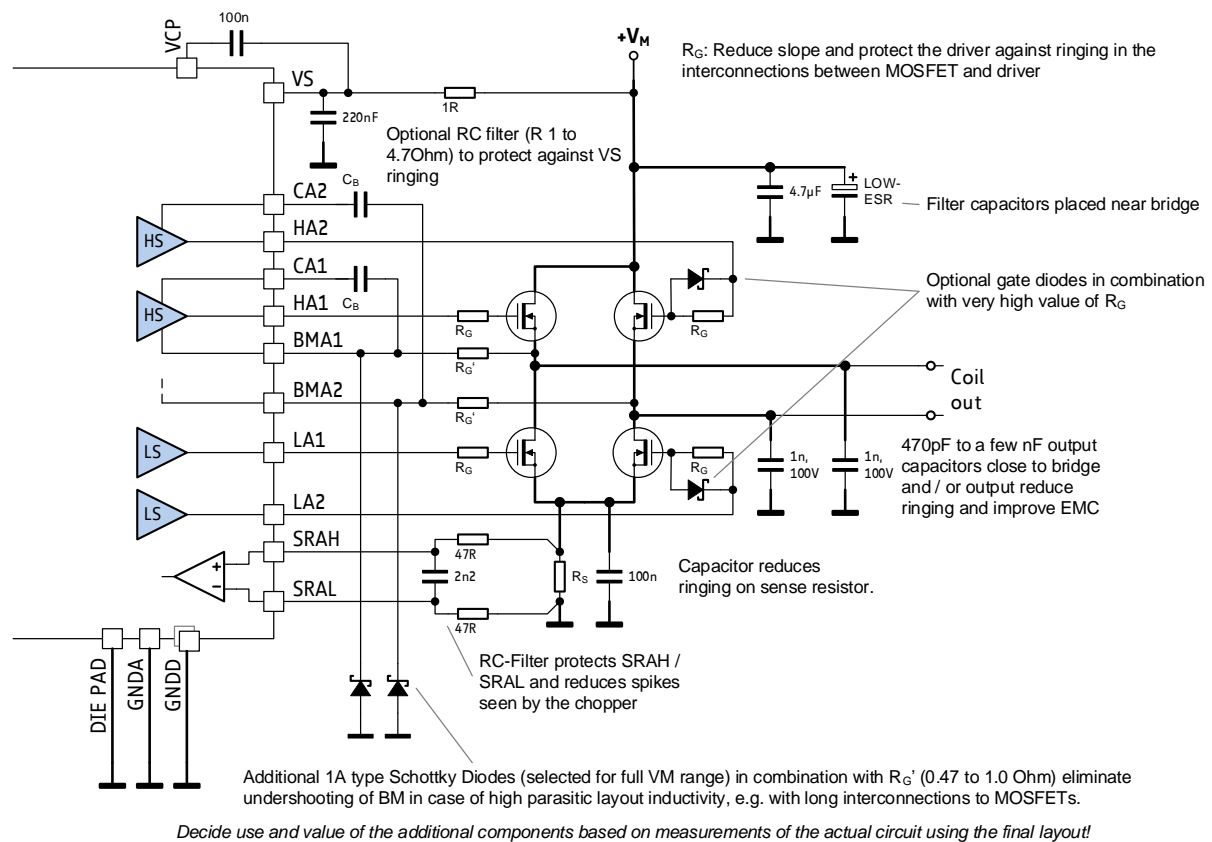
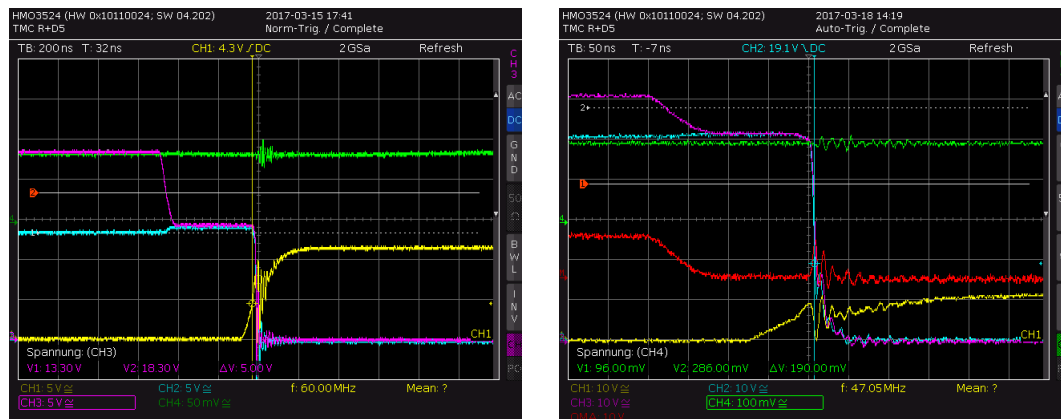
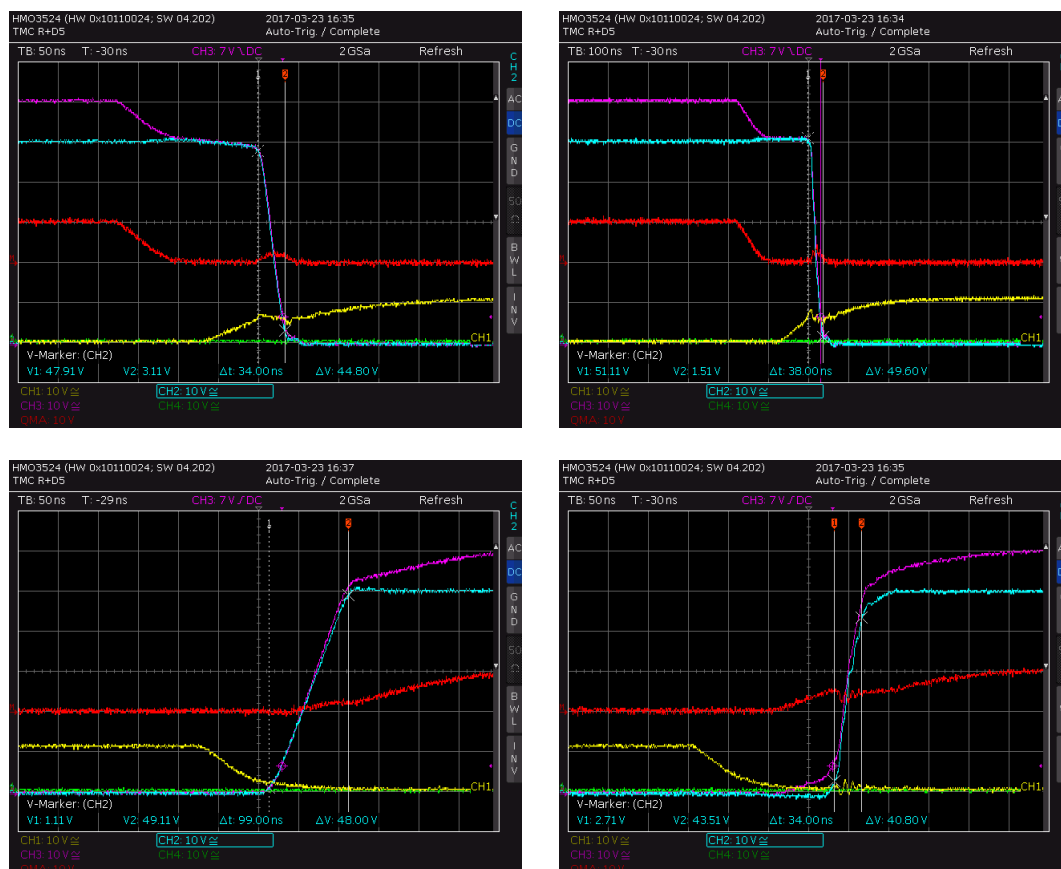
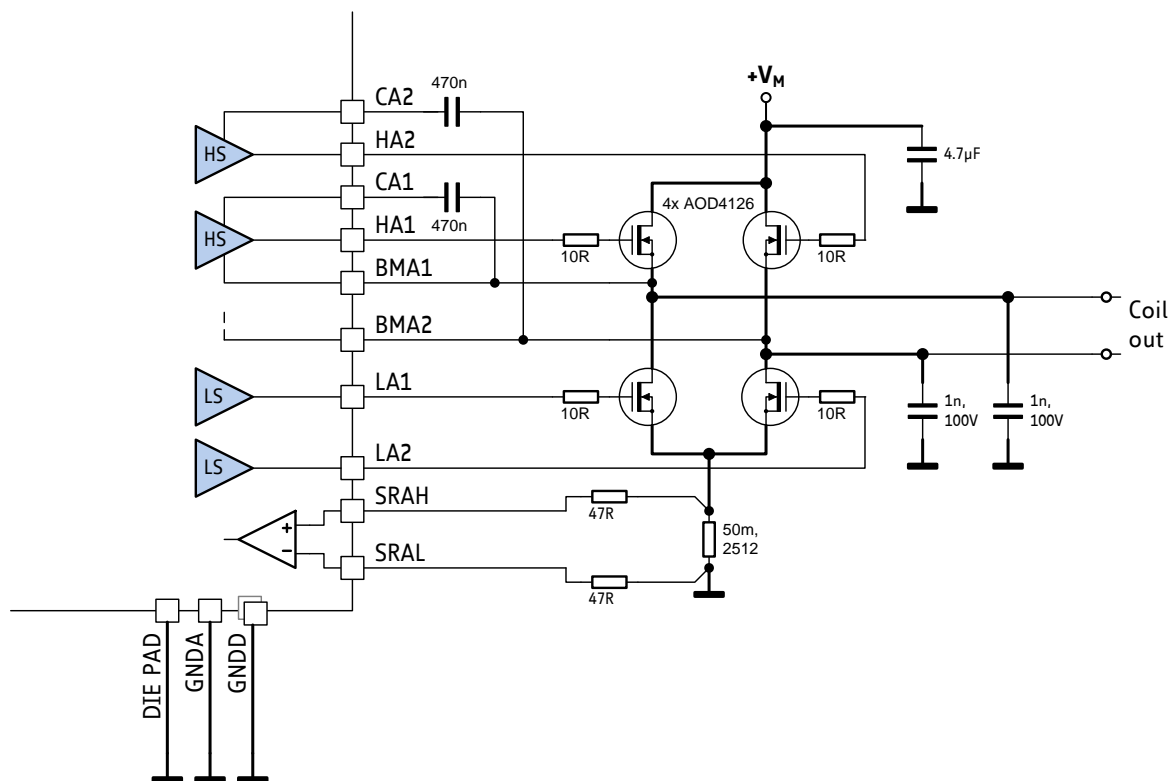

Figure 3.5 Bridge protection options for power routing inductivity
Figure 3.6 Ringing of output (blue) and Gate voltages (Yellow, Cyan) with untuned bridge
Figure 3.7 Switching event with optimized components (without / after bulk diode conduction)
Figure 3.8 Example for bridge with tuned components (see scope shots)
Stray inductance in power routing will cause ringing whenever the opposite MOSFET is in diode conduction prior to switching on a low-side or high-side MOSFET. Diode conduction occurs during break-before make time while the load current is inverse to the following bridge polarity. The MOSFET bulk diode has a certain, type specific reverse recovery time and charge. This time typically is in the range of a few 10ns. During reverse recovery time, the bulk diode will cause high current flow across the bridge. This current is taken from the power supply filter capacitors (see thick lines Figure 3.5). Once the diode opens, parasitic inductance tries to keep the current flowing. A high, fast slope results and leads to ringing in parasitic inductivities in the current path (see Figure 3.6). This may lead to bridge voltage undershooting the GND level as well as short pulses on VS and all MOSFET connections. It must be ensured, that the driver IC does not see spikes on its BM pins undershooting GND more than 5V. Severe VS ripple might overload the charge-pump circuitry. Measure the voltage directly at the driver pins to driver GND. The amount of undershooting depends on energy stored in parasitic inductivities from low side drain to low side source and via the sense resistor RS to GND.
When using relatively small MOSFETs, a soft slope control requires a high gate series resistance. This endangers safe MOSFET switch off. Add additional diodes to ensure safe MOSFET off conditions in this case (shown for right MOSFET pair in Figure 3.5).
Figure 3.7 shows performance of the basic circuit after adapting switching slope and adding 1nF bridge output capacitors.
- Add optional gate resistors close to MOSFET gate and output capacitors to ensure clean switching and reliable operation by minimizing ringing. Figure 3.5 shows the options plus some variations.
The MOSFETs have a low gate capacitance and offer roughly 50ns slope time at the lowest driver strength setting. At lowest driver strength setting, switching quality is best (Figure 3.6), but still shows a lot of ringing. Low side gate resistors have been added to slightly increase switching slope time following high-side bulk diode conduction by increasing the effect of Gate-Drain (Miller) charge. High side gate resistors have been added for symmetry. Tests showed, that 1nF output capacitors dramatically reduce ringing of the power bridge following bulk diode conduction (Figure 3.7). Figure 3.8 shows the actual components and values after optimization.